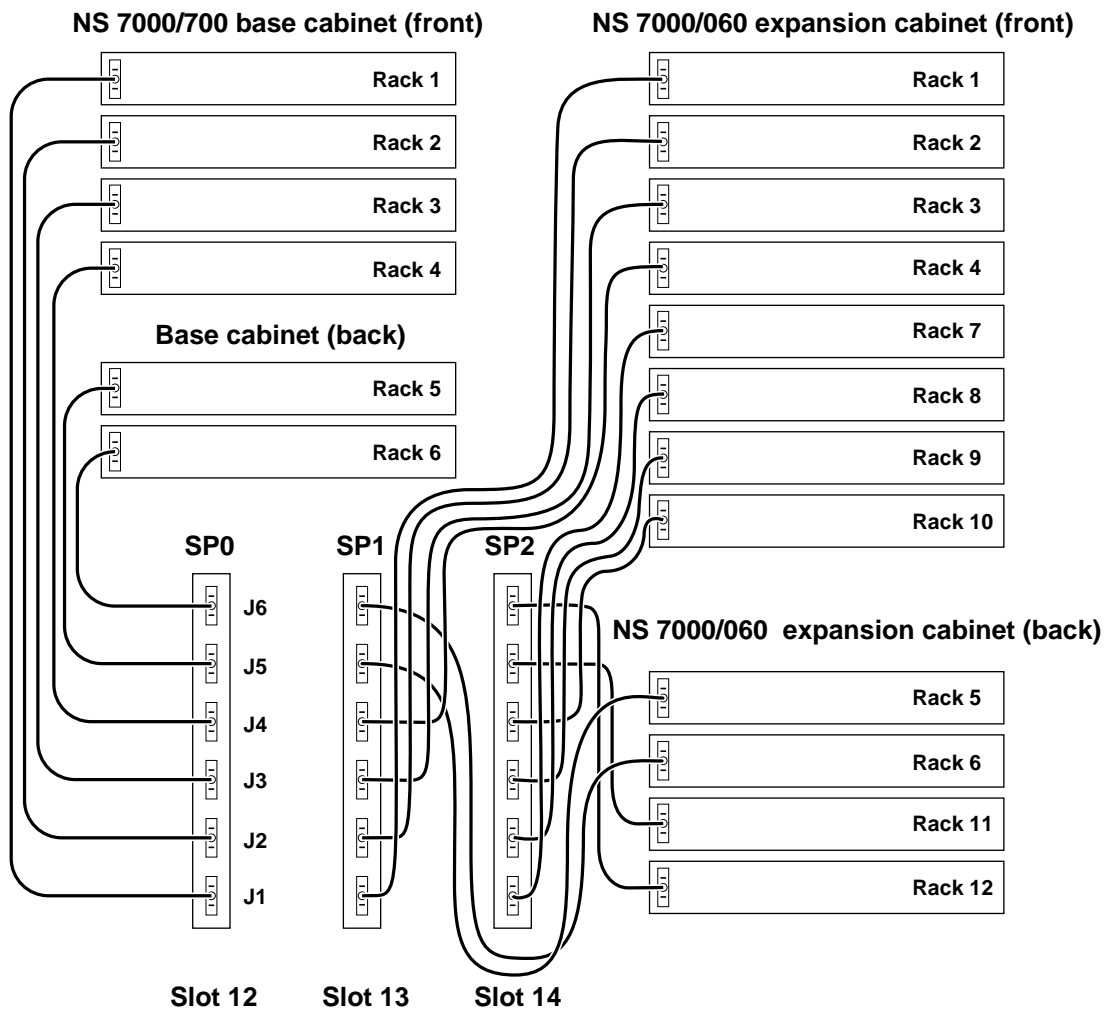

Figure 22. SCSI cabling from the first NS 7000/060 expansion cabinet
- ▲ Always place a disk drive in slot 1, which is the upper-left slot in front of the expansion cabinet (see Figure 22 on page 36 for the location of slot 1).